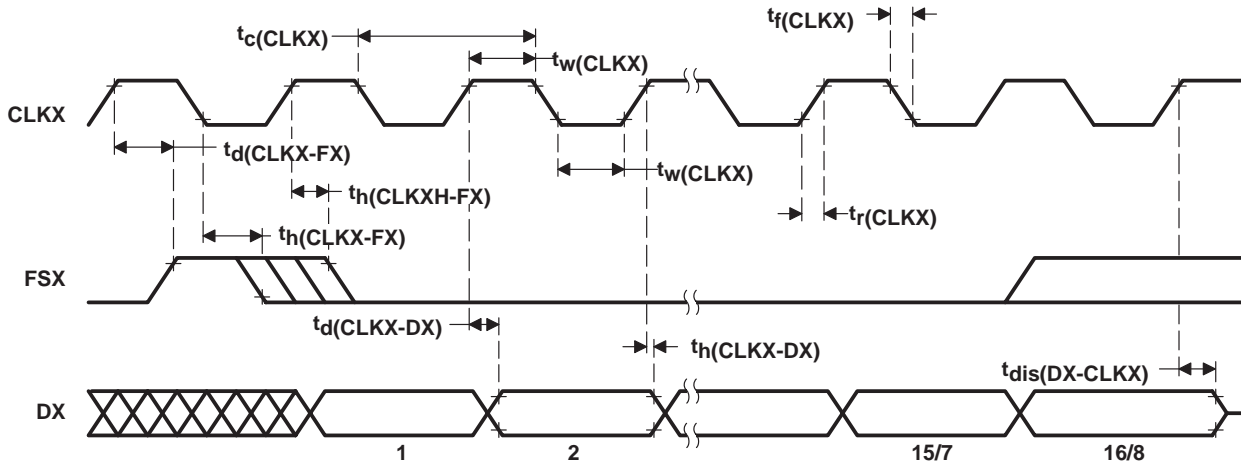

Figure 17. Serial-Port Transmit Timings
**switching characteristics over recommended operating conditions (see Figure 17) [H = 0.5tc(CO)]**
**timing requirements over recommended ranges of supply voltage and operating free-air temperature (see Figure 17) [H = 0.5tc(CO)]**